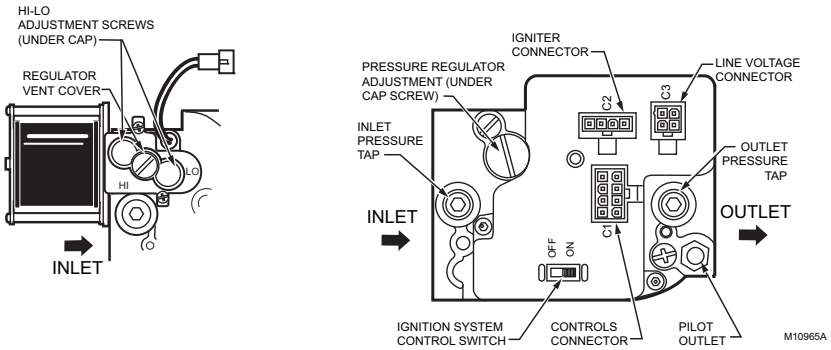
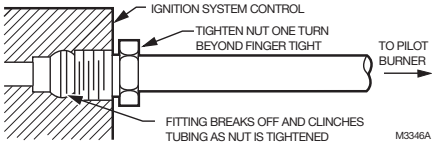

Fig. 6. Top view of ignition system control.
Fig. 7. Always use new compression fitting.
3. Unscrew the brass compression fitting from the pilot outlet (Fig. 6). Slip the fitting over the tubing and slide out of the way. See Fig. 7.
1. Remove pilot adjustment cover screw. See Fig. 6.
3. With main burner operating, check the ignition system control flow rate using the meter clocking system method or check pressure using a manometer connected to the outlet pressure tap on the ignition system control. See Fig. 6.
- b. Using a screwdriver, turn the inner adjustment screw (Fig. 6) clockwise ↻ to increase or counterclockwise ↻ to decrease the gas pressure to the burner.
3. With main burner operating, check the ignition system control flow rate using the meter clocking method or check pressure using a manometer connected to the outlet pressure tap on the ignition system control. See Fig. 6.
- b. Using a screwdriver, turn the inner adjustment screw (Fig. 6) clockwise ↻ to increase or counterclockwise ↺ to decrease the gas pressure to the burner.
4. With main burner operating, check the ignition system control flow rate using the meter clocking method or check pressure using a manometer connected to the outlet pressure tap on the ignition system control. See Fig. 6.
- a. Remove the pressure regulator adjustment cap (Fig. 6).